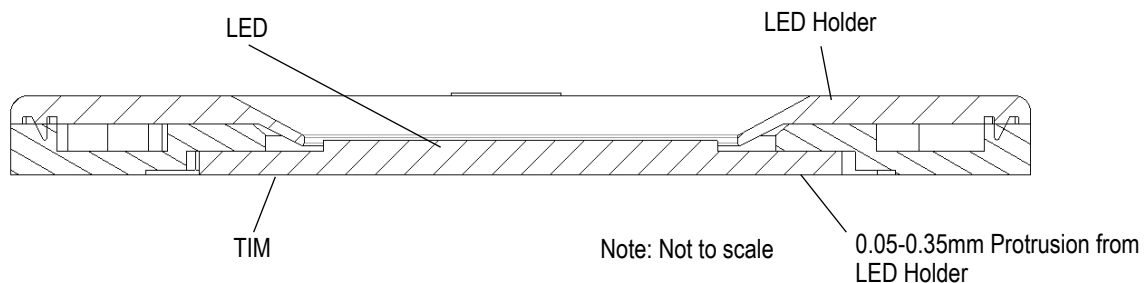

Figure 3
- the LED protrusion, including the TIM, must not be less than 0.05 mm and not more than 0.35 mm (refer to Figure 3)